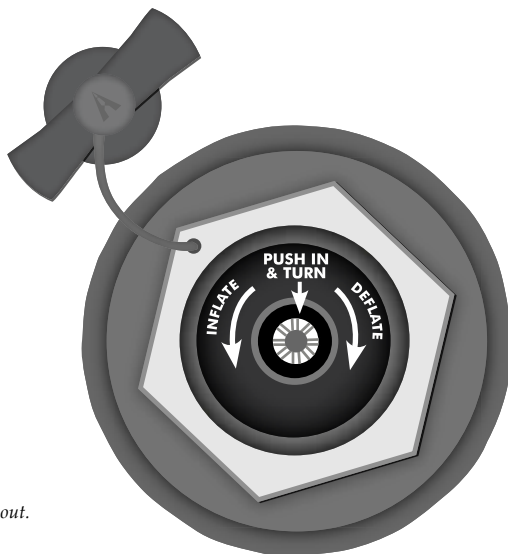

Figure 1. Inflate/Deflate Spring Valve
1. Partially inflate chamber 1 until the kayak begins to fill out or appears to be half way inflated then close cap. Check to be sure the valve is in the inflate position (*See Figure 1*).
2. Push stems inward and rotate to deflate position (*See Figure 1*).